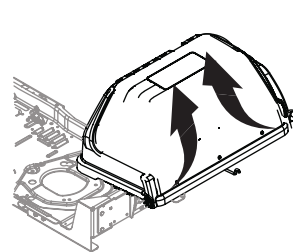

Figure 10
6. Open the bagger cover by pushing in on the tabs and lifting the grass catcher cover. See Figure 10.